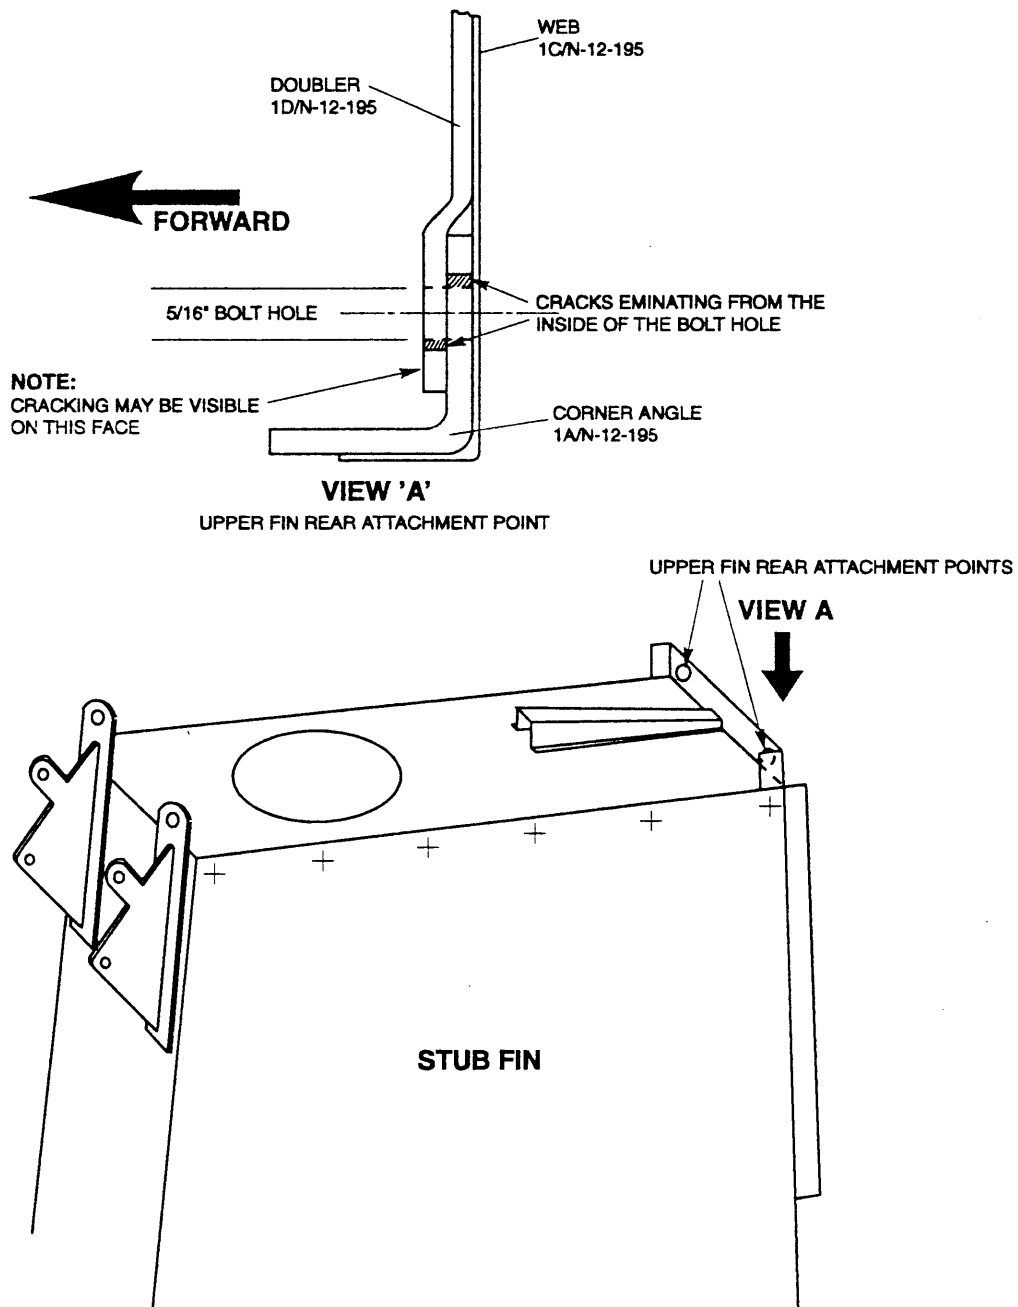

Figure 1 – Upper Fin to Stub Fin Attachment
- (c) Using a Borescope inspect the bolt hole for horizontal cracking in the 3 layers of metal plate (Ref Fig 1).
- (c) Using a Borescope inspect the bolt hole for horizontal cracking in the 3 layers of metal plate (Refer Fig 1).
- (b) Using a X10 magnifying glass and strong light, inspect the rear attachment bolt holes for horizontal cracking in the 3 layers of metal plate (Refer Fig 1).
B. Part 2 – Repair (Refer Fig 1)
- (1) If cracks, fretting and/or any other damage is found either in the corner angle (PN 1A/N-12-195), the doubler (PN 1D/N-12-195) or the web (PN 1C/N-12-195) ASTA Defence is to be contacted for a repair scheme.